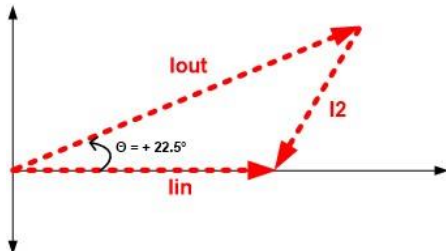

Figure 5: Current Phasor Diagram
Using equation (5), **Figure 5** shows the current phasor diagram.